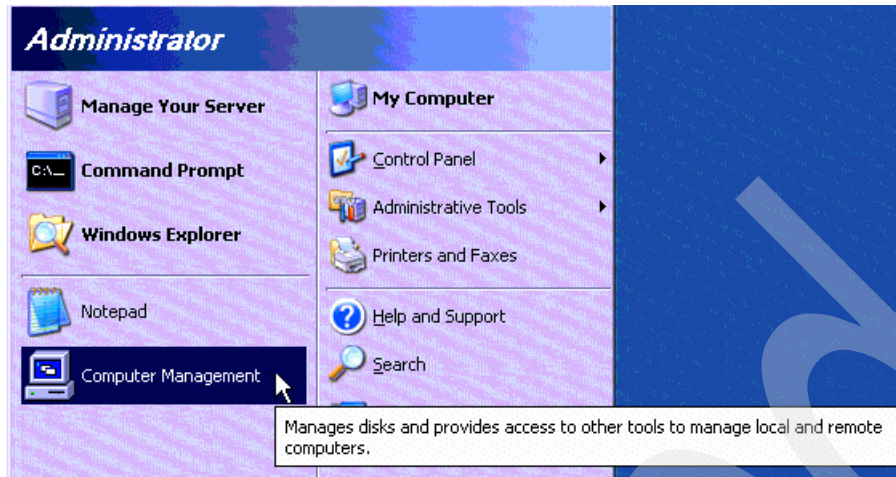

Figure 4-62 Select Computer Management to verify Ethernet hardware
- iii. To verify that the Ethernet hardware is seen (Figure 4-62 on page 96), click **Start** and select **Computer Management**.